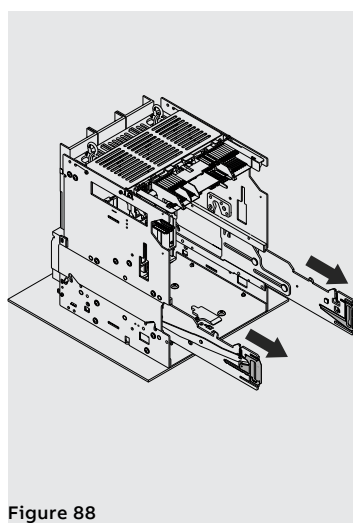

Figure 88
3. Extract the guides of the fixed part using the appropriate levers. See Figure 88.